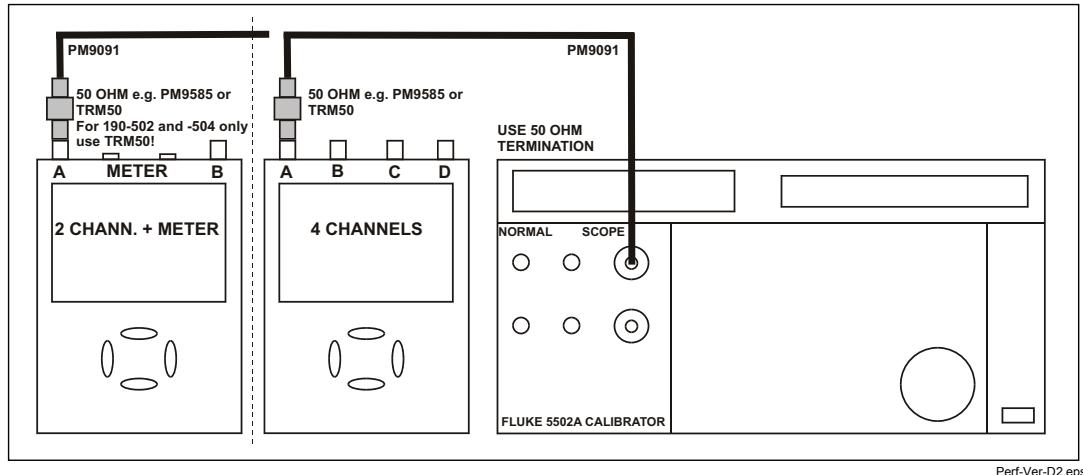

Figure 5-11. 5502A SCOPE Output to Test Tool Input A
4. Connect the Test Tool to the 5502A SCOPE output as shown in Figure 5-11.
1. Connect the Test Tool to the 5502A as shown in Figure 5-11.